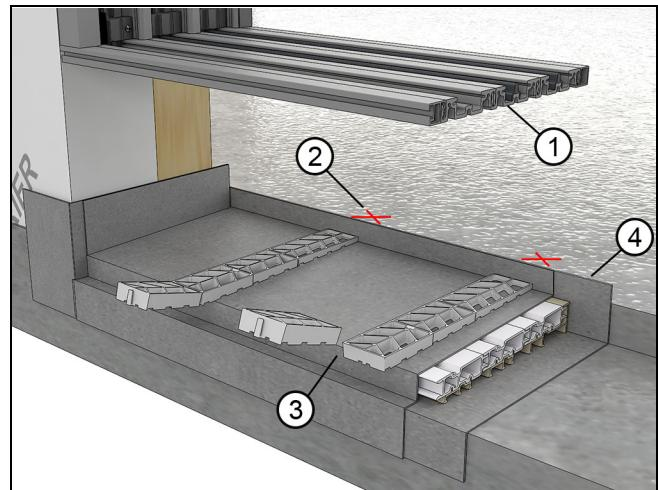

Figure 12 HP Sill (3 track shown)
2. If you have an odd number of sill tracks you will need to break off the exterior end of the counter-shim at the break line. See Figure 12.